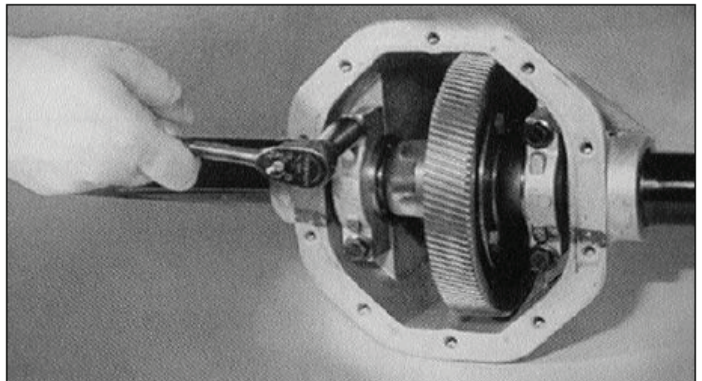

Figure 7-14. Removing Bearing Caps
9. Remove four bearing cap bolts (3) and both bearing caps (2). See Figure 7-14.